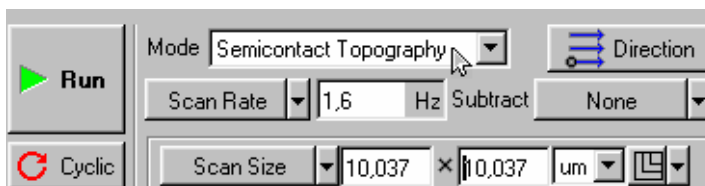
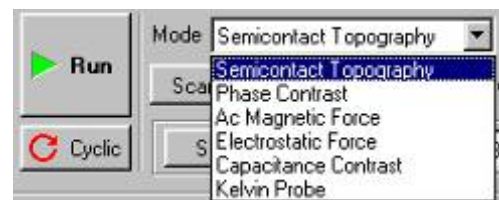

Fig. 4-27
Fig. 4-28
As an operational SPM mode by default, a SemiContact mode is automatically set - **Semicontact topography** (name of the operational mode is displayed in **Mode** select box, Fig. 4-27), located in the first row of the **SCAN** window control panel.
- To select a mode, you need to double click in the field for selecting SPM modes (Fig. 4-27) and select the required operational mode in the get opened menu (Fig. 4-28) Correspondingly, the instrument automatically would perform all the relevant commutations required for implementation of the chosen mode.
- *If some preliminary information is available about properties of the sample, and some confidence is present that the altitude difference of the expected relief do not go beyond the limits of the z-range scanner, you may set a maximum scanning field as shown in Fig. 4-26, Fig. 4-27*